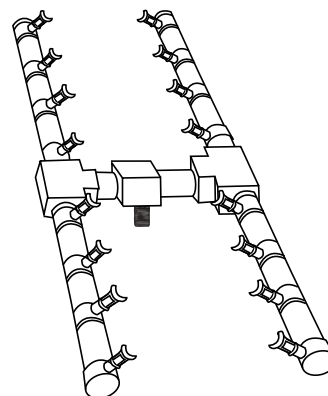

Fig. 5 Shows burner with nipple installed.
Step 1: Install the nipple into the Pro Spur burner (Fig. 5).